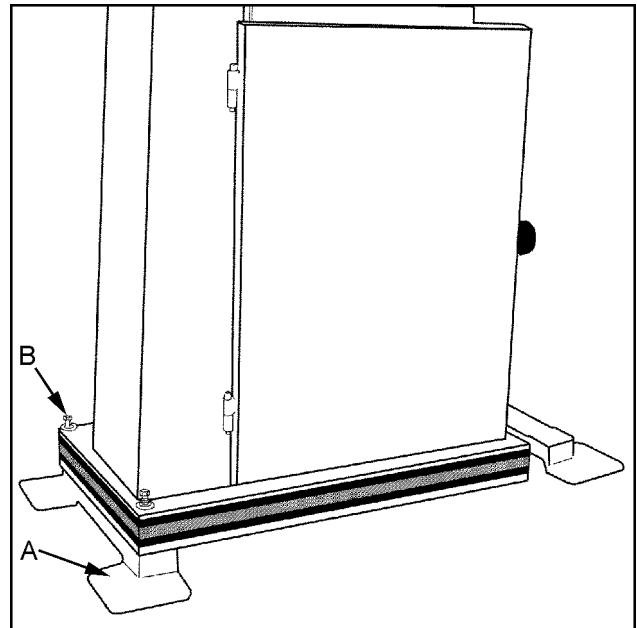

Fig. 1
1. With help from another person tilt the bandsaw just enough to get one set of feet (A, Fig. 1) underneath the base. Line up holes and bolt (B, Fig. 1) through the base into the feet using *two* hex cap bolts 3/8"-16x4", *two* 3/8" lock washers, *two* 3/8" flat washers, and *two* 3/8" plastic flat washers. Repeat for opposite end.